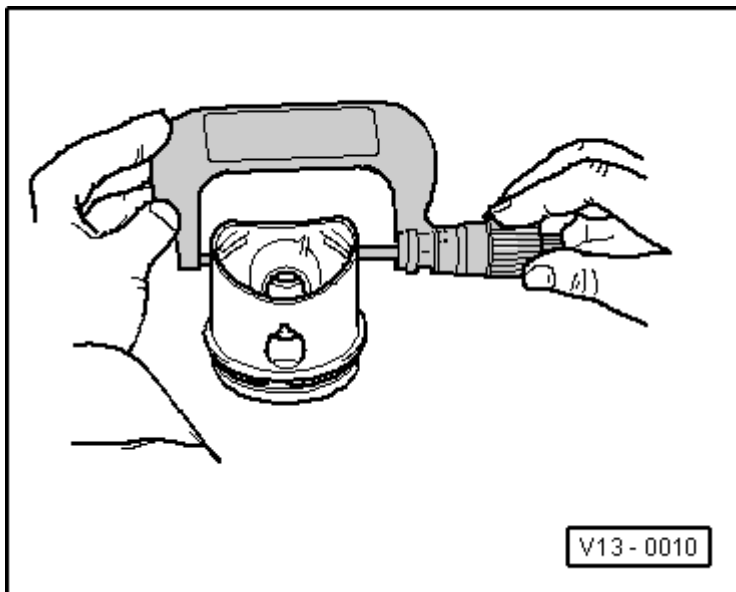

Fig. 25: Checking Piston
- Checking, refer to **Fig. 25**.